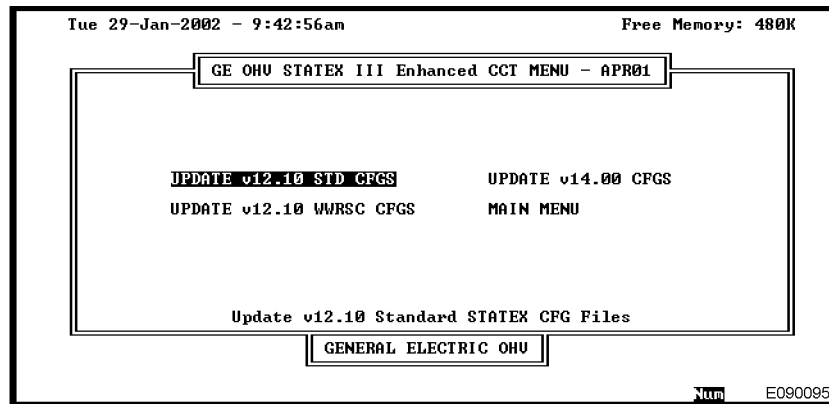

FIGURE 2-6. CONFIGURATION FILE CONVERTER MENU (Enhanced Vers. 1.00 Shown)
6. Select UPDATE CFG VERSION by typing [u] or move the cursor with the arrow keys and press [ENTER]. The screen shown in Figure 2-6 will appear.